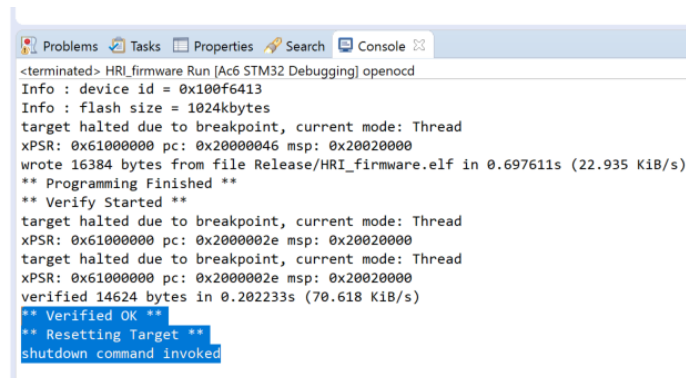

Figure 2: output of the flashing process in case of success.
- Verify that the program has been successfully flashed to the board by checking the output in the “Console” tab below the editor (Figure 2); the last 3 lines should be: